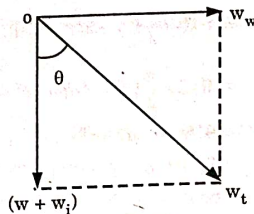

Fig. 3.6.3.
2. Hence the total force acting on the conductor is vector sum of the horizontal and vertical forces as shown in Fig. 3.6.3.